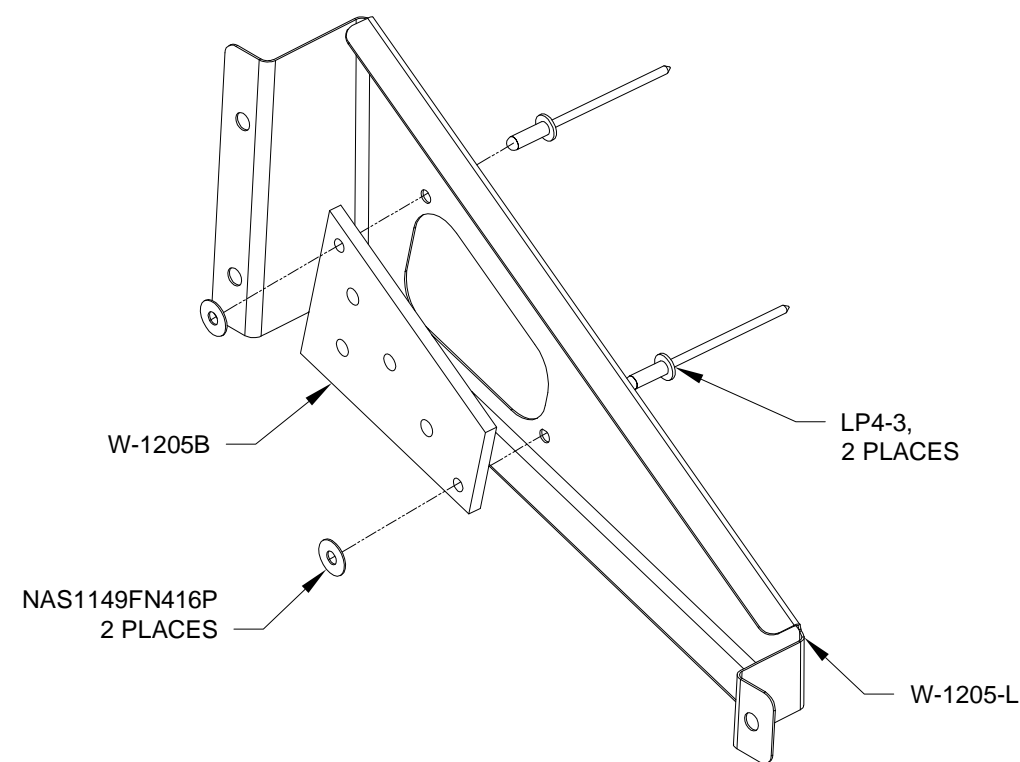

FIGURE 4: TERMINAL BRACKET ASSEMBLY
Step 7: Place the W-1205B Terminal Block on the outboard side of the W-1205-L Terminal Bracket and rivet as shown in Figure 4. Repeat process for W-1205-R Terminal bracket.